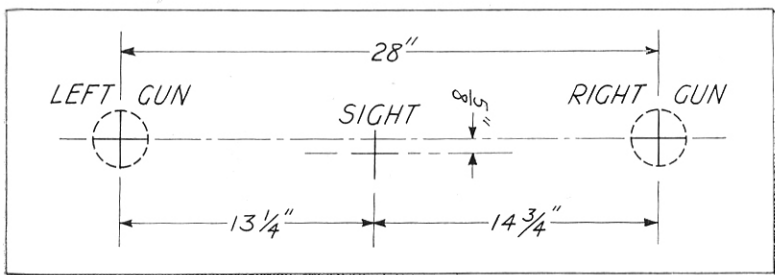

FIGURE 35—Test Target Dimensions
1. Target must be laid out according to Figure 35. Test targets used with other turrets having different relative positions of sight and guns are not to be used.